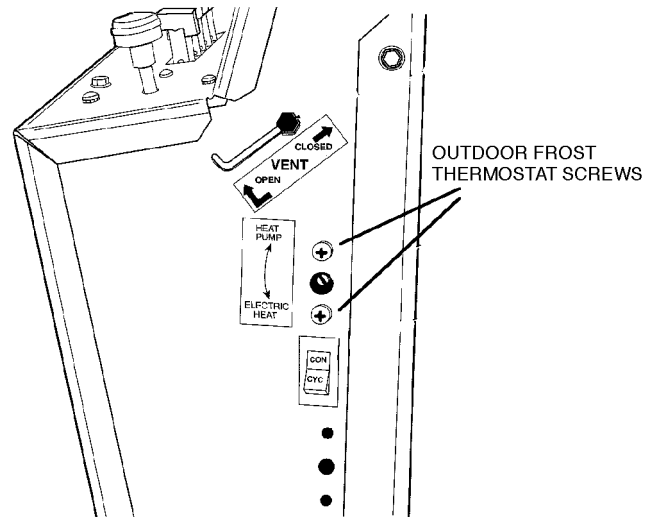

FIGURE 60 — OUTDOOR FROST THERMOSTAT SCREWS
2. Remove the 2 screws mounting the thermostat to the right side of the control box. See Figure 60.